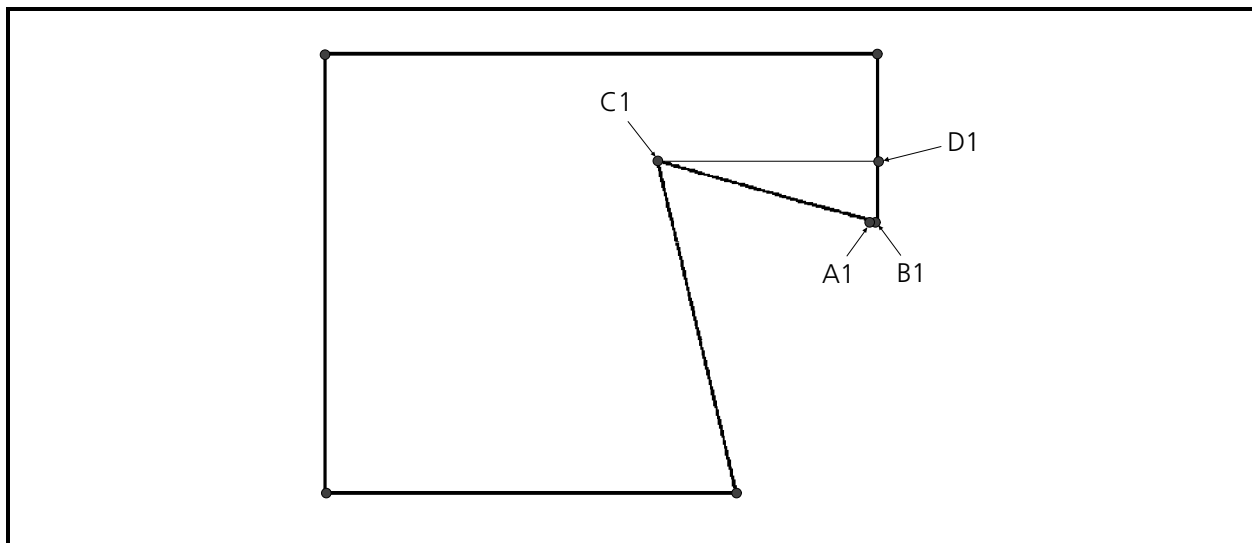

Figure 3-56
4. Refer to rules #1, #3a, and #10; and enter a Mk1 at A1 in the illustration in Figure 3-56. This will identify the 'A' end of the first line of the first fill.
7. Refer to rule #4 and enter a Mk2 at point B1 as shown in the illustration Figure 3-56. This will identify the start of the first side of the fill.